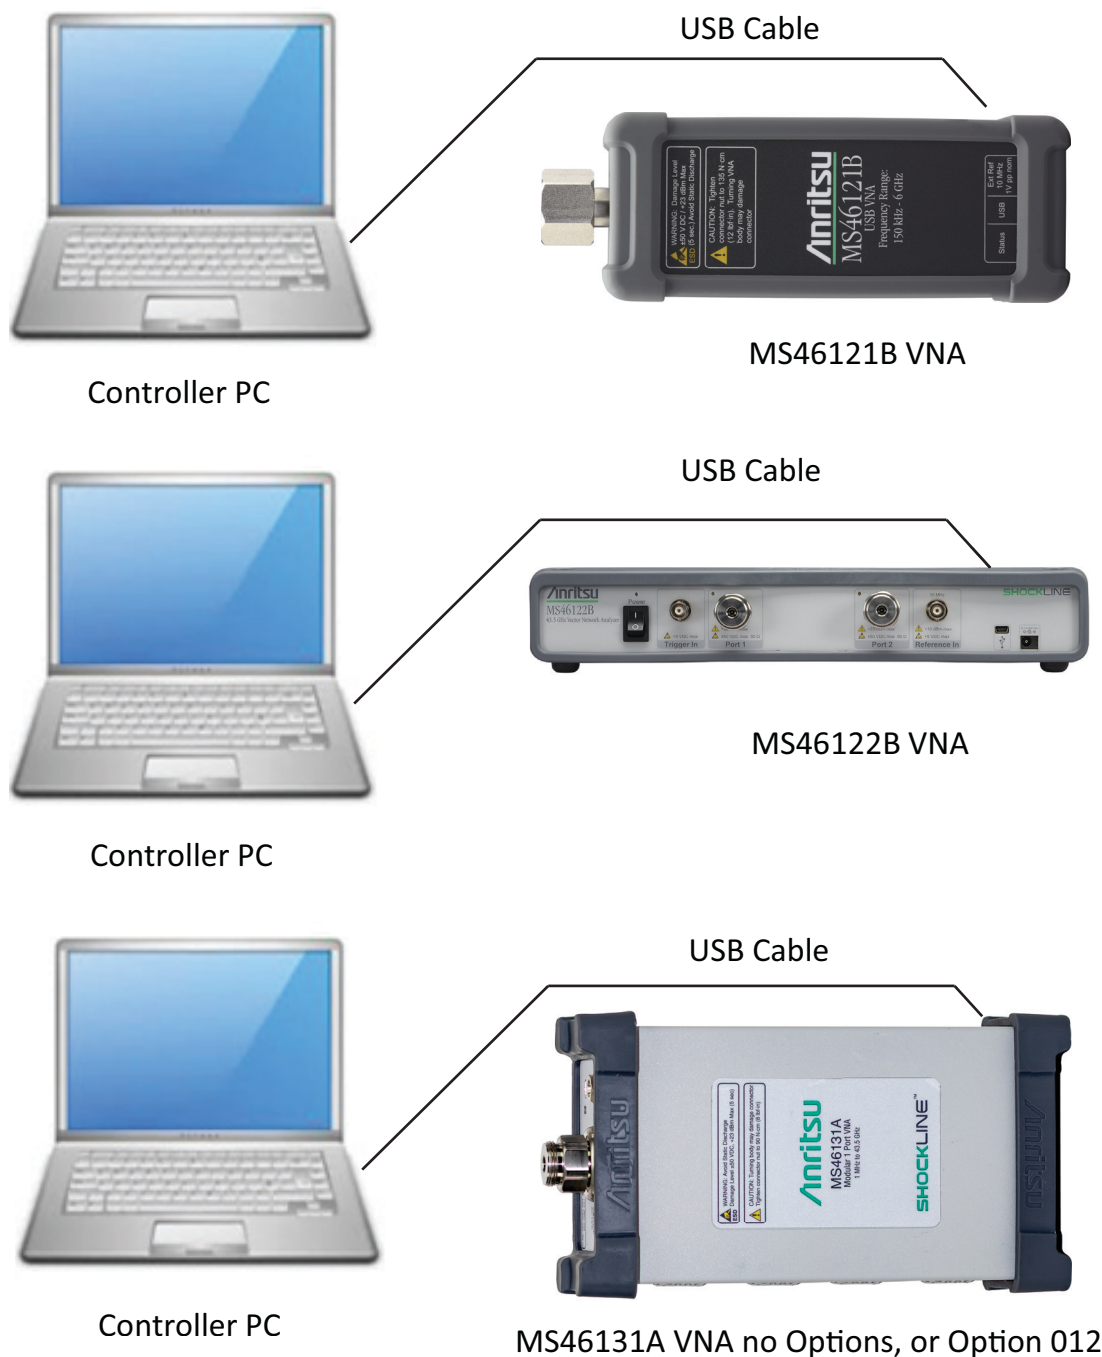
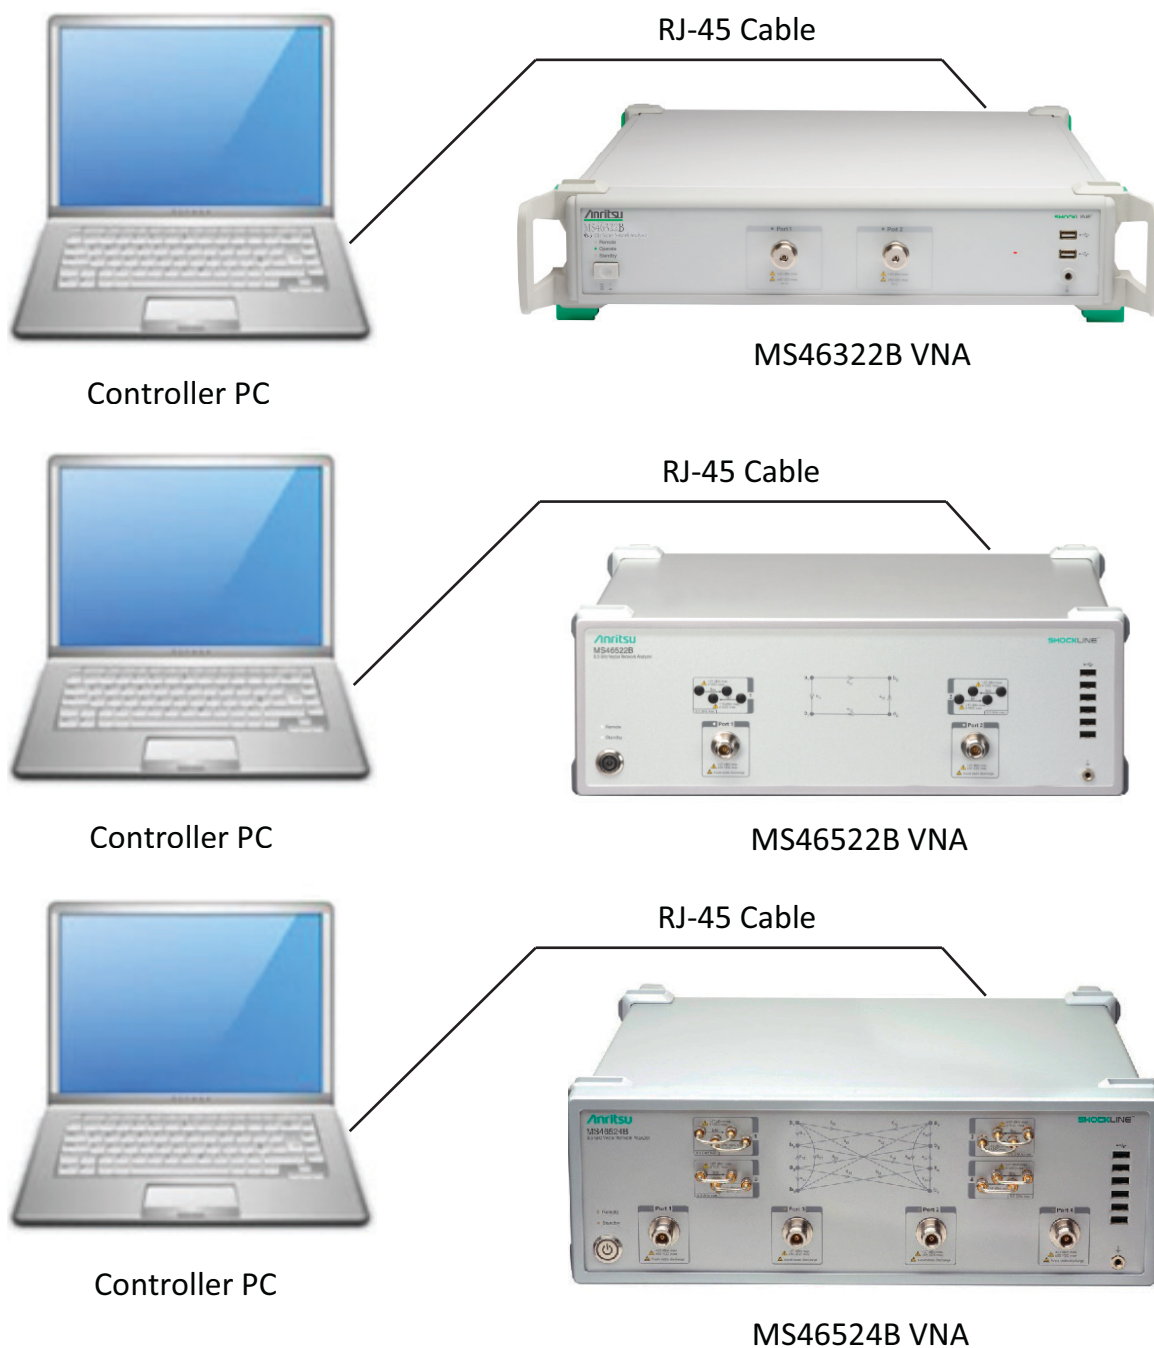

Figure 1-14. Connecting the ShockLine VNA (MS46121B, MS46122B, MS46131A, ME7868A) to Required External Control PC
Figure 1-16. Connecting the ShockLine VNA (MS46322B, MS46522B, MS46524B) to Optional External Test Control PC
7. Connect the controller PC to the ShockLine VNA as shown in Figure 1-14 or Figure 1-16.